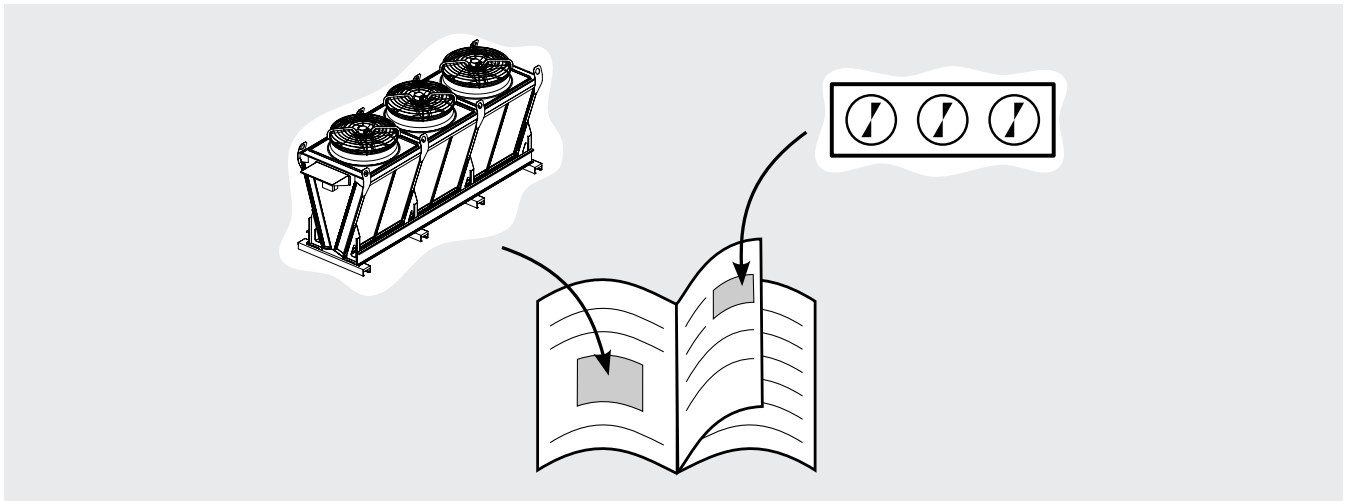

Figure 2
3.2 In the images in this document, a generic single-row V-model with 3 motor fans will always be represented: this is only an illustrative graphic representation. See Figure 2.